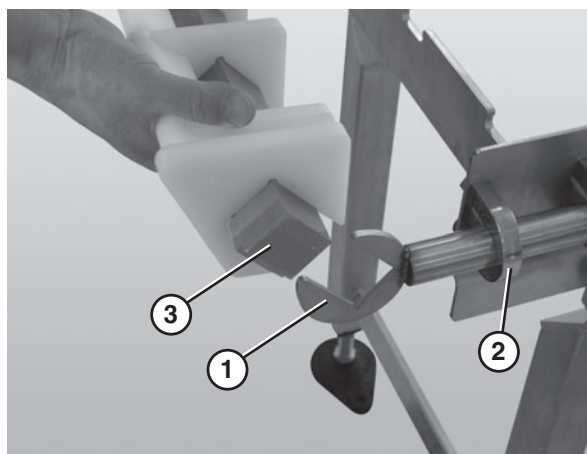

Figure 9
1. Slide the nose bar idler shaft hands (**Figure 9, item 1**) into the take up blocks (**Figure 9, item 2**).
2. Attach the nose bar transfer post (**Figure 9, item 3**) to the nose bar idler shaft hands.